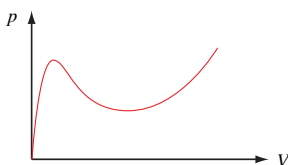

Figure 1.11: Qualitative sketch of the pressure-volume relation of a typical toy rubber balloon.
Rubber balloons are an exception to the rule that the pressure rises with increasing volume. Rubber has an unexpected property: At small volumes, the pressure indeed rises with increasing volume. However, there is a range of volumes when the pressure drops with increasing volume before rising again (Fig. 1.11).
- Use the qualitative sketch of the pressure-volume relation of a toy balloon (Fig. 1.11) to explain why the air can flow from a less inflated balloon to a more inflated one. (Remember that we would normally assume the more inflated balloon to have the higher pressure.) Is it possible for the air to go from the more inflated one to the less inflated one?